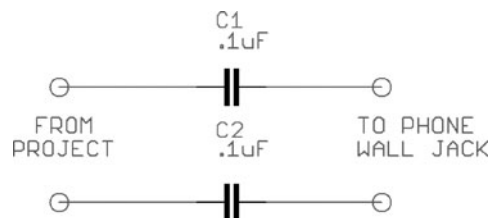

Figure 12-3 A very simple and effective way to interface “hack” into your phone line.
If you plan to mess around with telephone hardware hacks on a regular basis, then the schematic shown in Figure 12-3 will be very useful as it allows just about any device to send or receive audio or data to and from the phone line. The pair of 0.1-microfarad (μF) ceramic capacitors block any direct current (DC) from passing and allow your device to send audio or listen to audio on the phone line. This project includes this interface in the schematic already, but you may find it useful to add the capacitors right at the end of your hacked phone cord so that you can simply jack into your breadboard or any other project that may need to connect to your phone system.